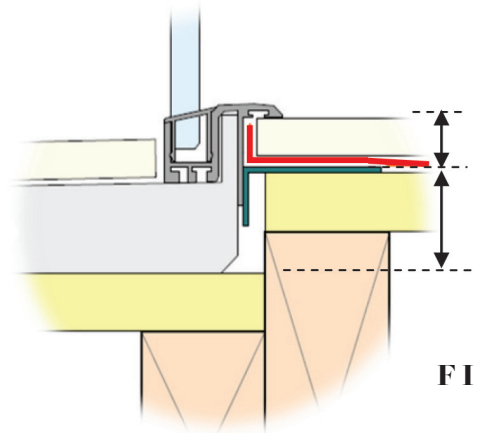

FIG 4.
- Level entry applications require Level Entry Kit flashing (GREEN ANGLE FIG 4) to be siliconed to the base. The waterproofing outside the shower will lap onto this flashing as shown (RED LINE FIG 4). Please refer to supplied dimension sheet for measurements.